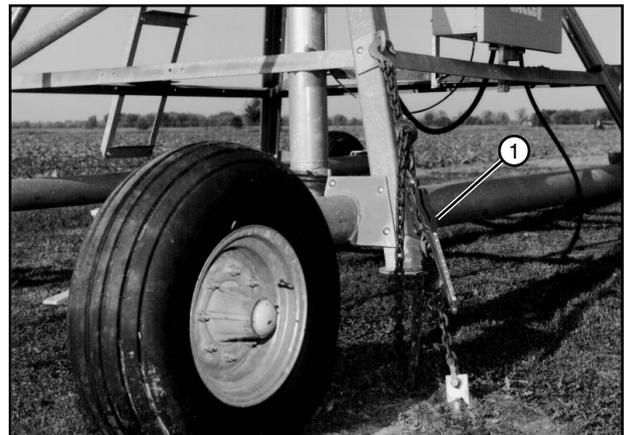

Figure 55-2 1. Load Binder
14. Attach and tighten the load binders at each corner of the pivot. See Figure 55-2.